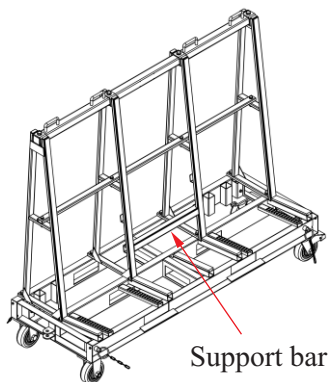

Figure 3.1
- Assemble the support bar to the appropriate position depending on the size of the stone slabs (Figure 3.1 and 3.2).